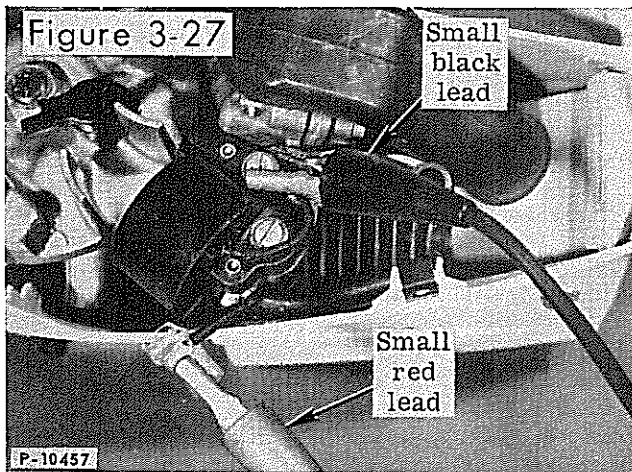

Figure 3-27
- With the Merc-O-Tronic hooked up as in the condenser capacitance test (Figure 3-27), press the red button and hold it for several seconds. The pointer should move to the right and then return to zero. When the red button is released, the pointer should move to the left and then return to zero. If the pointer does not move in this manner, install a new condenser.